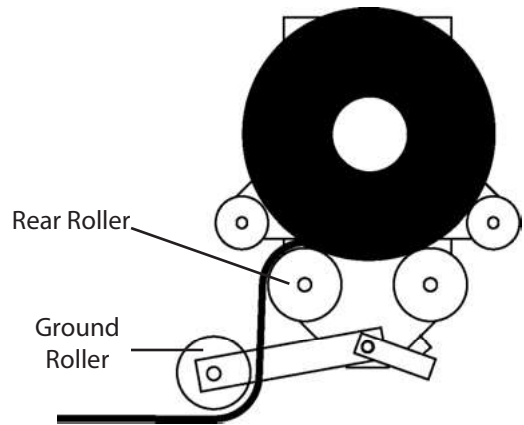

Figure 21: Plastic Mulch Rollers
- Feed the mulch over or under any of the rollers, and underneath the Ground Roller (Figure 21).